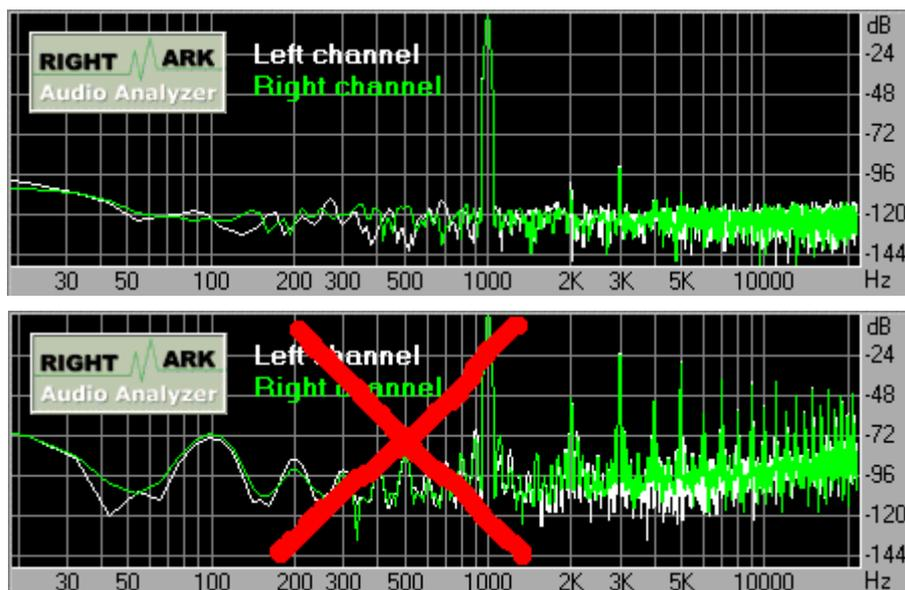

Fig. 3: Adjusting levels. Correct and incorrect setups.
4. A sound card calibration will start. Two testing signals will be played back repeatedly: 0 dB FS and -6 dB FS. Adjust playback and recording levels in your mixer to make input levels approximately equal to output levels (precise equality is not needed, but it is desirable for accuracy; a difference of 1 or 2 dB can be tolerated). It is recommended to start adjusting levels using "master out" slider only in your mixer. If it does not lead to success, try "wave out" and "line in" sliders. At the spectrum windows you can watch spectra of incoming signals. You should maximize the amplitude of 1 kHz harmonic, and prevent huge harmonic distortion (fig. 3).